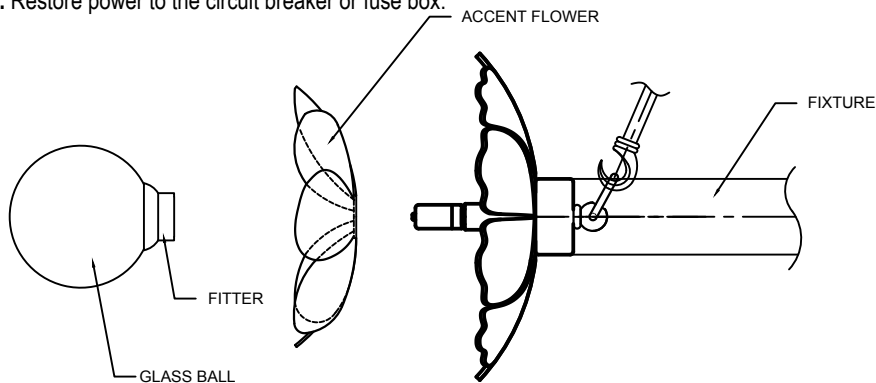

FIGURE-06
13. Install the glass ball diffuser and accent flower. Insert the accent flower to the flower on the frame then secure it with the glass ball with fitter. (See Figure-06).